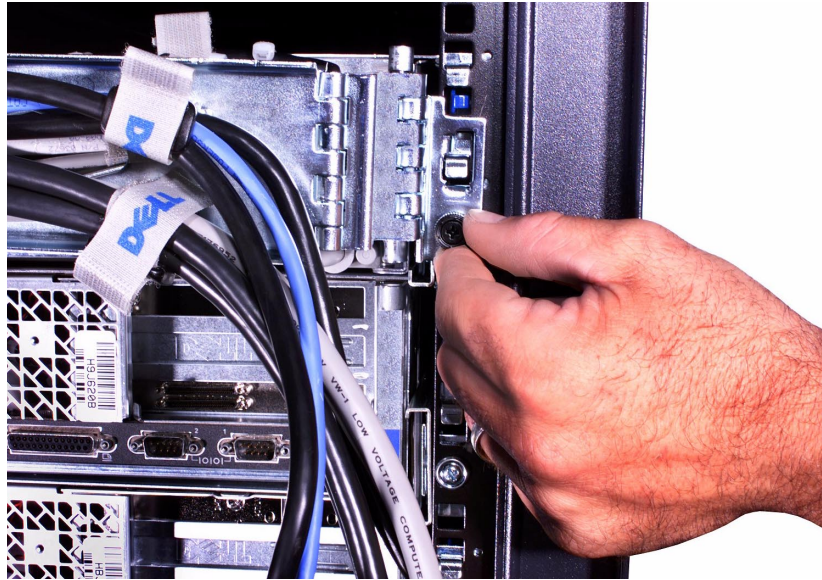

Figure 13. Attaching the Cable Management Arm to the Rack
8. Attach the free end of the cable management arm to the right side of the rack by tightening the thumbscrew (see Figure 13).